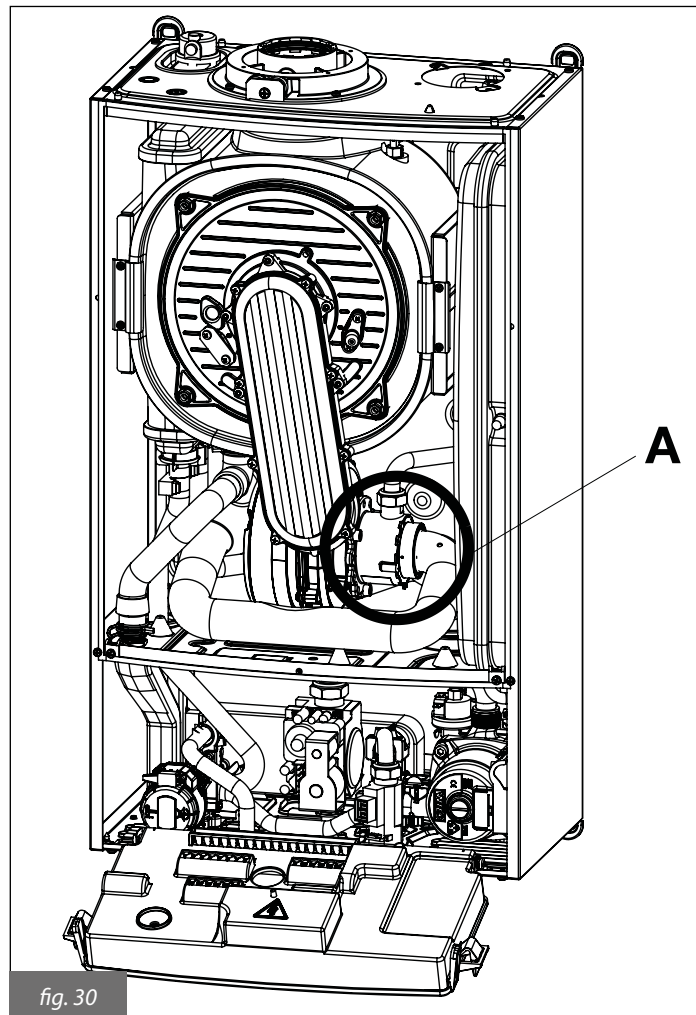

fig. 30
- Disconnect gas pipe from mixer (A, fig. 30) and open the mixer (fig. 29).